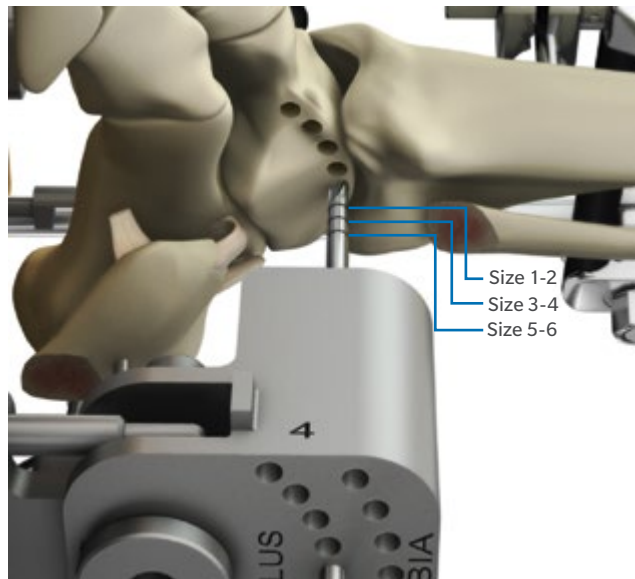

Fig. 42 Perforate bone for selected implant size.
- Use the Pre-Cut Guide Drill to drill through each hole in both rows of the Pre-Cutting Guide (Fig. 42).